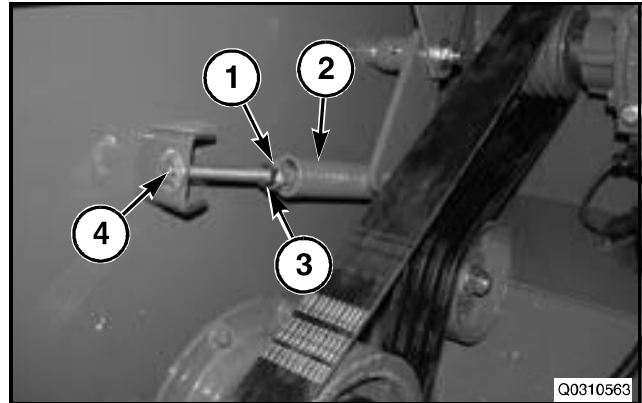

FIG. 21
FIG. 21: Hold the spring plug (1) in the tensioner spring (2) and loosen the jam nut (3) on the adjusting bolt (4). Adjust the spring so the dimension from the inside of the hook to the end of the spring plug is 200 mm (7.87 in). Hold the plug and tighten the jam nut.